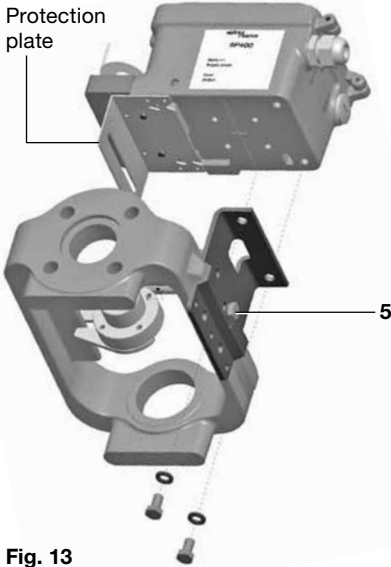

**Fig. 11**
**5.2.5** Locate the protection plate onto the back of the SP400 positioner housing and fix in place (Figures 11 and 12).